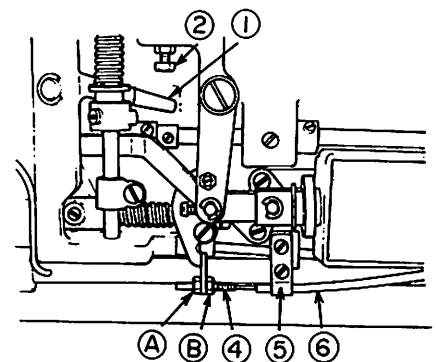

Fig. 26
2) Adjusting the floating range of the second thread tension disc (Fig.26)
- ① To increase the floating range, loosen nut ② and tighten nut ①.
- ② To decrease the floating range, loosen nut ① and tighten nut ②.
- After the adjustment is completed, tighten both ① and ② nuts.
Loosen the screws (Fig.32 ④), and adjust by moving the bobbin thread presser in and out or up and down. At this instant, adjust the fore and aft position of the bobbin thread presser and adjusting the position of the thread trimming stopper arm (Fig.26 ②). As shown in figure.